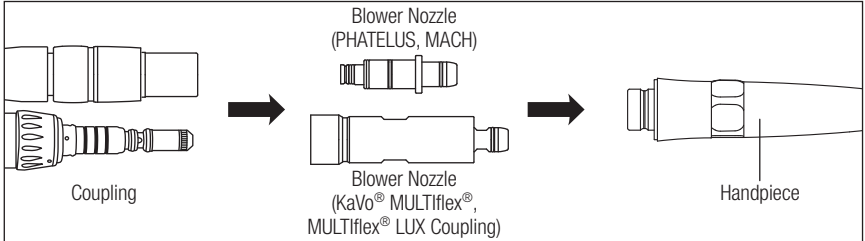

Fig. 15
- 4) Fit the supplied Blower Nozzle to the coupling and attach to the handpiece. Run idle with no water more than 5 sec. to clear lines. (Fig. 15)